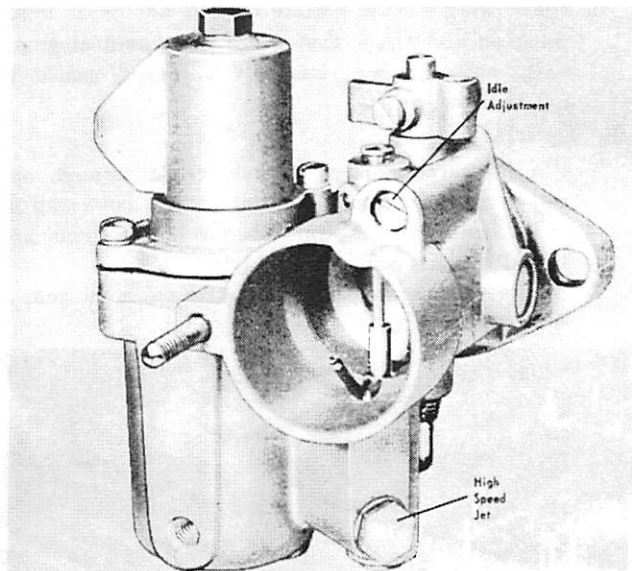

Figure 6. Idle Adjustment
A. High Speed Adjustment (Figure 6)
B. Idle Adjustment (Figure 6)
- Start with all idle needles one turn open and adjust for maximum RPM with distributor retarded to give about 600-700 RPM. (Figure 6)
- With engine running at idling speed while in forward gear, turn low speed mixture adjusting needle counterclockwise until affected cylinders start to "load up" or fire unevenly due to overrich mixture. (Figure 6)